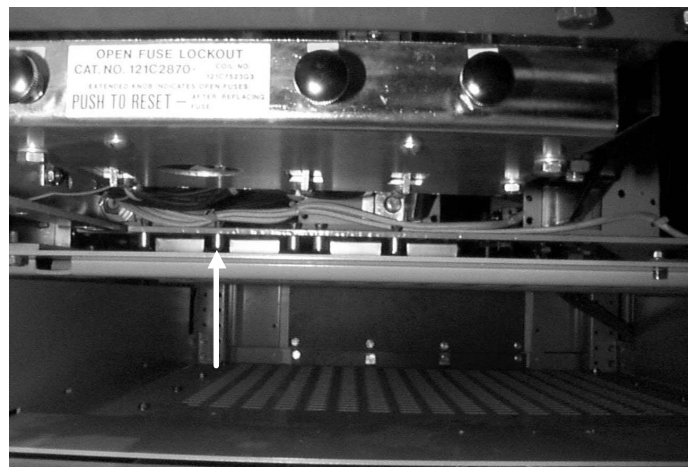

Fig. 5-10. Rating rejection bracket on EG-32/40/50
6. Roll the breaker into the compartment until the racking cams touch the racking pin and the spring discharge stop engages. This is the DISCONNECT position. At this point, the racking cams are positioned to engage the fixed racking pins in the compartment, ready to begin the racking motion. If the incorrect breaker has been installed, the interference pins on the breaker will interfere with the rejection teeth in the compartment prior to reaching the disconnect position (Fig. 5-10).